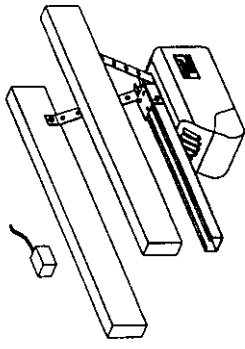

Figure 1-2
• DISCONNECT the existing external radio receiver from the garage door opener. (figure 1-2)